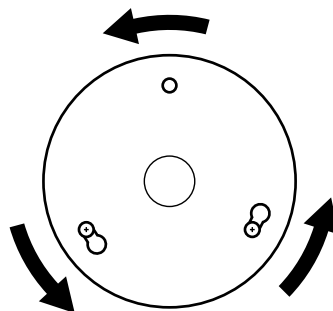

FIGURE 15
- D. Turn the upper switch housing counterclockwise until the housing assembly screws are firmly situated in the narrow end of the keyhole slots as shown in Figure 15. Install the one remaining #6-32 x 3/8" housing assembly screw into the third hole in the upper switch housing. Tighten all three screws firmly.